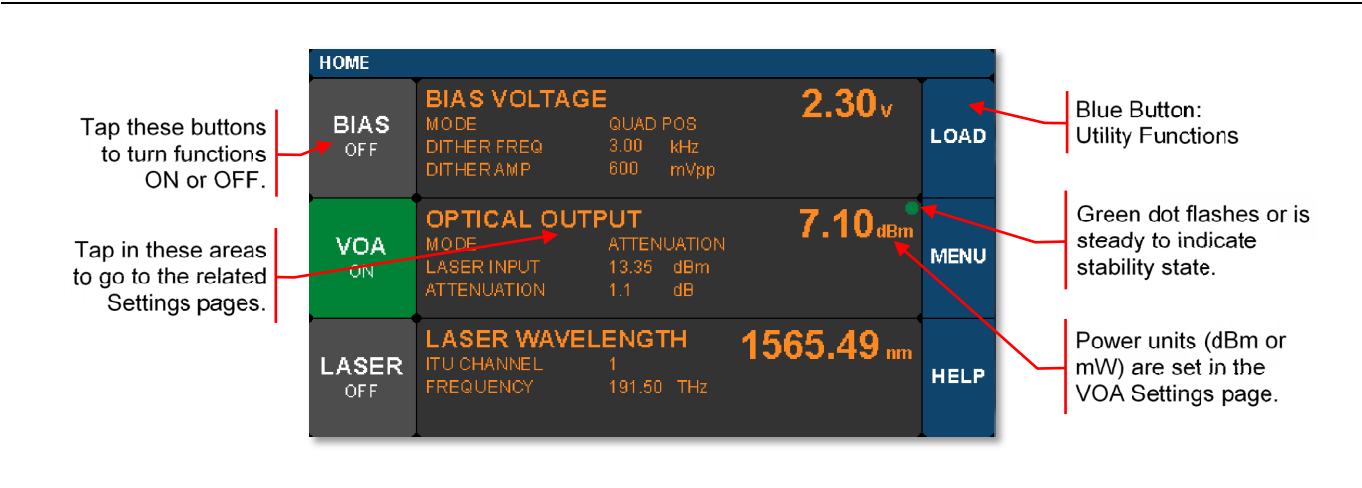

Figure 3-7. Home Screen Features
4. Turn the laser on by tapping the lower-left touchscreen button on the Home page (Figure 3-7).
5. Enable the bias controller by tapping the top-left touchscreen button on the Home page (Figure 3-7). Wait for completion of the calibration process. The instrument will enable the default Quadrature mode with positive slope bias point (“Quadrature Mode” on page 4-5). This is the desired mode for ME7848A system operation.
6. Take note of the output power, which is shown in the center right section of the Home page (Figure 3-7).
7. Turn on the VOA controller to adjust output power, if desired, by tapping the center-left touchscreen button on the Home page (Figure 3-7). Constant output is the desired mode for ME7848A system operation. Specified levels of optical power allow for the specified system dynamic range to be achieved: